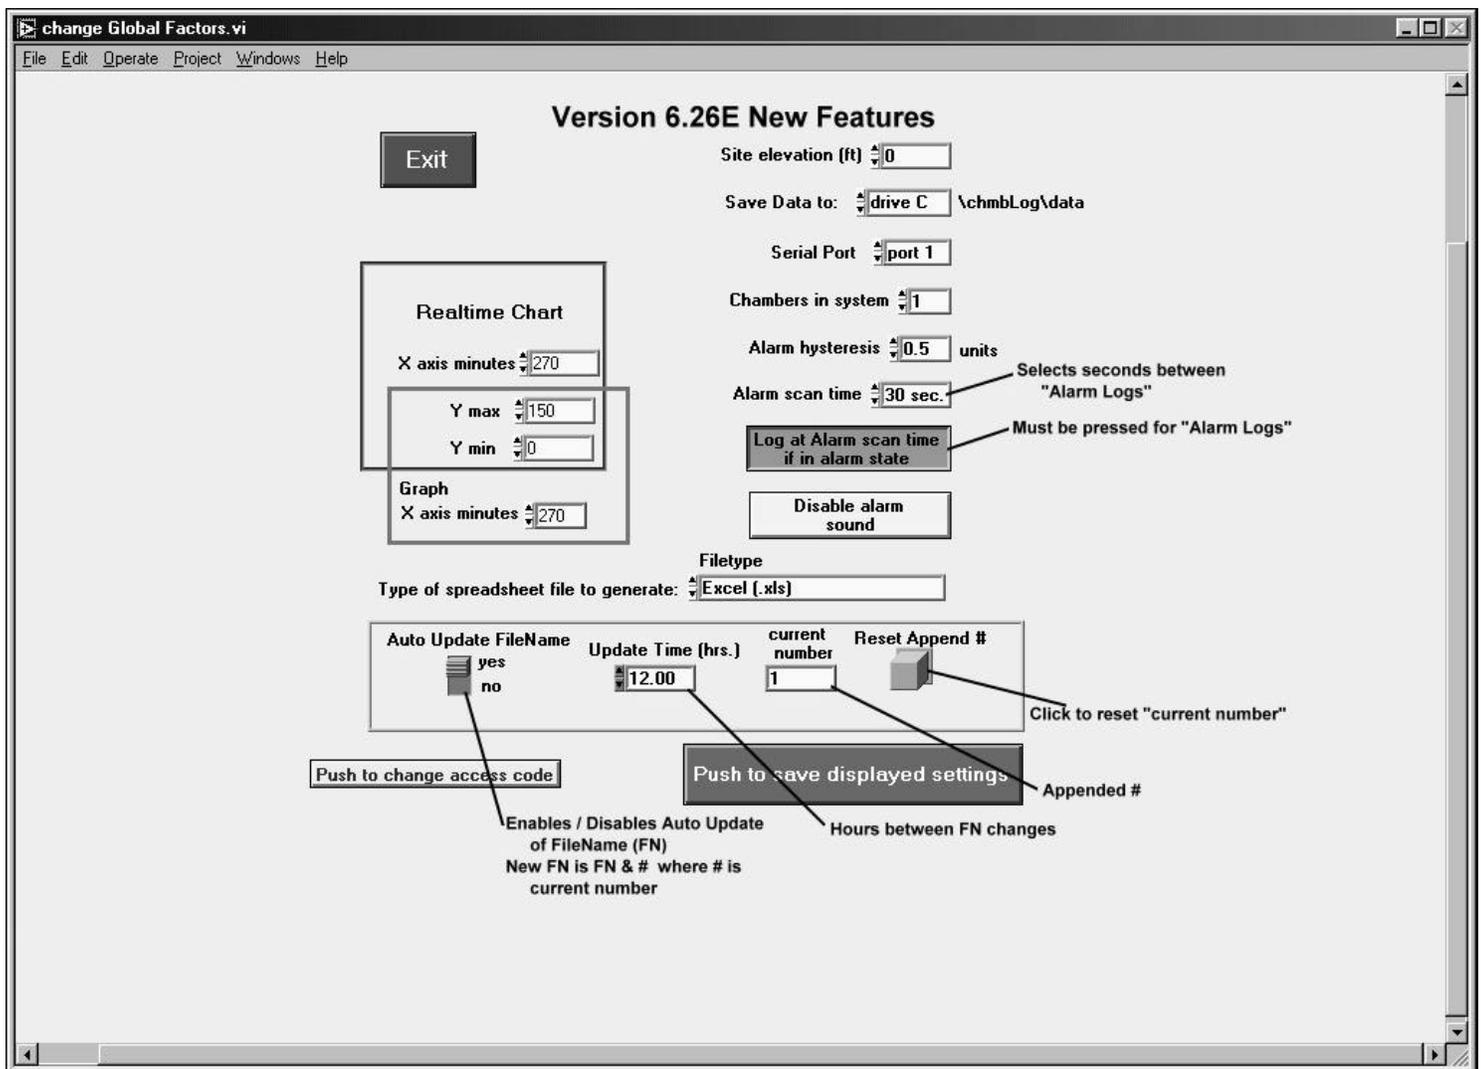

Fig. 1 - Global Screen
SETTING UP THE ChamberLog™ GLOBAL FACTORS: (Fig. 1)
When the “RealTime chart is ON” is selected on the Main Screen. The RealTime Chart is displayed on the Main Screen using the X & Y axis values entered in the Global settings (Fig 1, item 10).
(See Fig. 1)